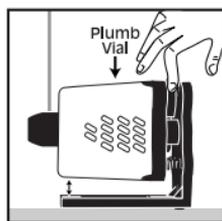

Fig. 4
2. Level the instrument by viewing the plumb vial and turning the front leveling screw until the plumb vial bubble is centered (Fig. 4).